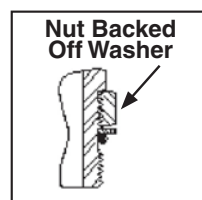

Fig. JA5
3. Lubricate O-Ring and threads with light oil or system fluid, install O-Ring in groove on the fitting. See Fig.JA5.